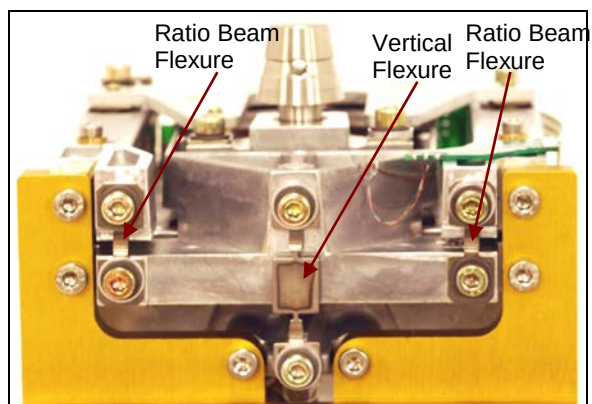

Figure 3-73. Ratio Beam Flexures and Vertical Flexure.
13. Install the Vertical Flexure, *with the elongated hole down*. (See Figure 3-73.)